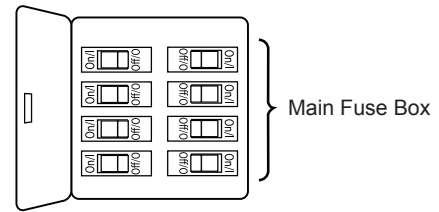
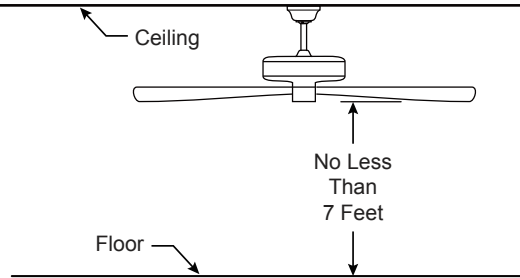
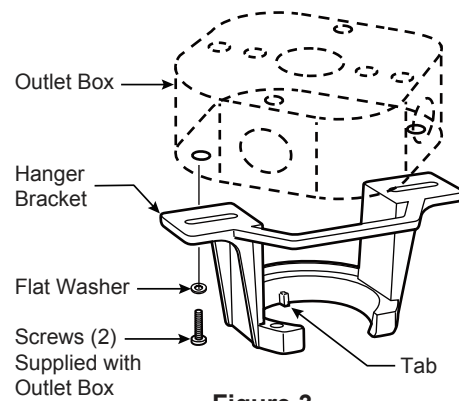

Figure 1
Figure 2
Figure 3
Your new ceiling fan will require a grounded electrical supply line of 120 volts AC, 60 HZ, 15 Amp Circuit. Electrical code requires use of a fan-rated outlet box to support the extra weight and motion associated with a ceiling fan. A fan-rated box will be labeled as such and typically supports up to a 70lb ceiling fan. Fan-Rated Outlet Boxes vary in ratings and design. Ensure the ratings of your ceiling fan outlet box meet the requirements for the ceiling fan being installed. Figure 1, Figure 2 and Figure 3 depicts different structural configurations that may be used for mounting the outlet box.
## Low profile box (Figure 1)
## Deep box (Figure 2)
### Deep box with brace (Figure 3)
1. Remove the hanger ball portion from the downrod/hanger ball assembly by loosening the set screw in the hanger ball until the ball falls freely down the downrod. Remove the pin from the downrod, then remove the hanger ball. Retain the pin and hanger ball for reinstallation in Step 7. (Figure 1)
2. Remove the hairpin clip and clevis pin from the bottom of the downrod. Retain the pin and clip for reinstallation in Step 4. (Figure 2)
3. Loosen the two set screws and locking nuts in the downrod support of the motor housing assembly. Route the black, white and blue wires through the downrod. (Figure 3)
To avoid possible fire or shock, be sure electricity is turned off at the main fuse box before hanging. (Figure 1)
The fan must be hung with at least 7' of clearance from floor to blades. (Figure 2)
1. Securely attach the hanger bracket to the outlet box (not included) using the outlet box screws and washers supplied with the outlet box. (Figure 3)
1. To set the code on receiver unit, slide dip switches to the same positions as set on the remote. (Figure 1)
To avoid possible electrical shock, be sure electricity is turned off at the main fuse box before wiring. (Figure 2)
2. Slide the receiver into the hanger bracket before wiring as shown in figure 3.
1. Assemble canopy by rotating key slot in canopy over shoulder screw in hanger bracket, taking care not to pinch the wires. Tighten shoulder screw. Fully assemble and tighten second shoulder screw that was previously removed. (Figure 1)
2. Securely attach and tighten the canopy screw cover over the shoulder screws in the hanger bracket utilizing the key slot twist-lock feature. (Figure 2)
1. Secure the three blades using the 1/4"-20 screws and blade plate assembly through the holes located on the bottom of the motor housing assembly. (Figure 1)
- 2. Position the trim cover onto the blade plate assembly bottom. (Figure 2)
- 1. **IMPORTANT:** Using a full range dimmer switch (not included) to control fan speed will damage the fan. To reduce the risk of fire or electrical shock, do not use a full range dimmer switch to control the fan speed. (Figure 1)
- 2. Restore electrical power to the outlet box by turning the electricity on at the main fuse box. (Figure 2)
- 3. To make fan operational, install 23A/12V battery (included) in hand-held remote transmitter, with fan power off. Then follow the remote code setting process. (If not used for long periods of time, remove battery to prevent damage to transmitter). Store the remote away from excessive heat or humidity. (Figure 3)
1. Installing Wall Holder: (Figure 1)